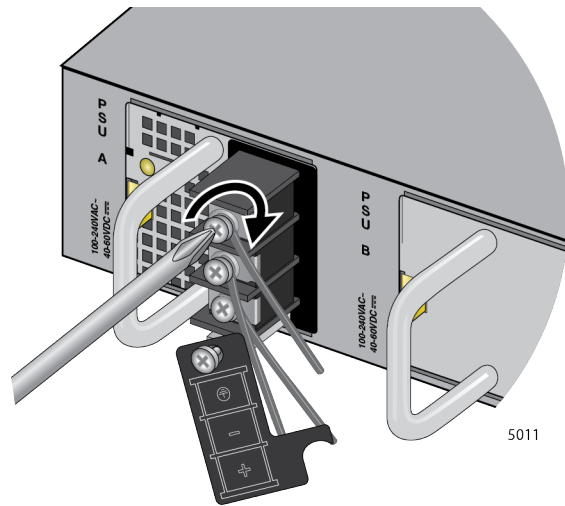

Figure 70. Tightening the Screw for the Negative (+)
- Wind the power wire and tighten the screw. Refer to Figure 70.